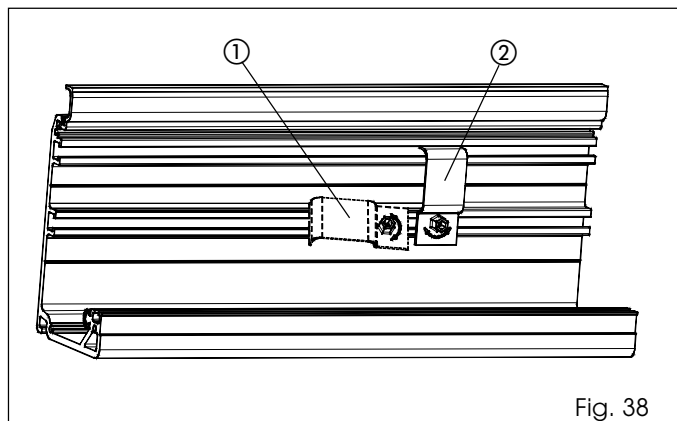

Fig. 38
Fit the supplied cable sleeves parallel to the profile (fig. 38 ref. ①) and then turn them by 90° to secure them (fig. 38 ref. ②).